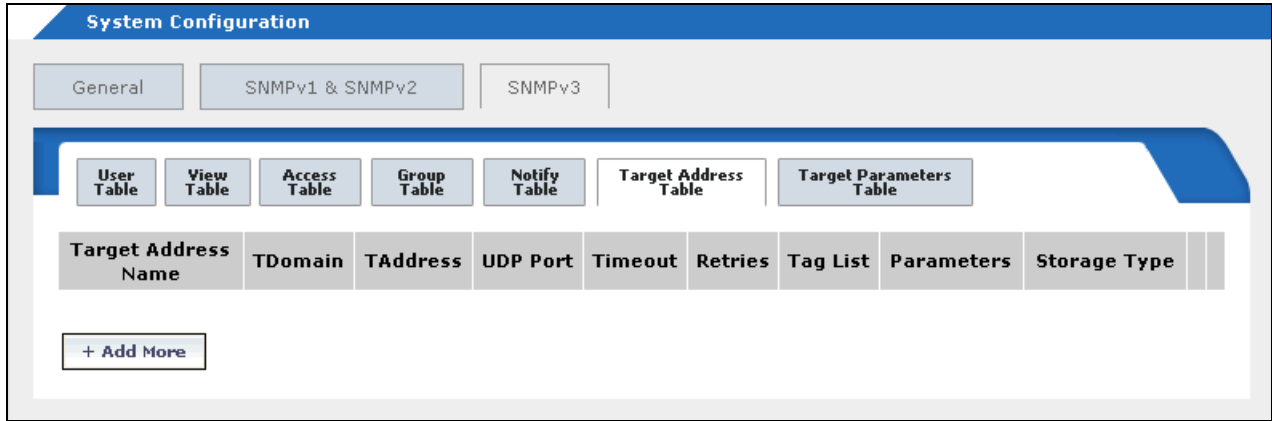

Figure 122. SNMPv3 Target Address Table Tab
- :Click the **Configuration** button in the menu bar and then select the **SNMPv3** tab and the **Notify Table** tab. The tab is shown in Figure 122.
- :Click the **Configuration** button in the menu bar and then select the **SNMPv3** tab and the **Target Address Table** tab. The Target Address Table tab is shown in Figure 122.
- Click the **Configuration** button in the menu bar and then select the **SNMPv3** tab and the **Target Parameters Table** tab. The Target Address Table tab is shown in Figure 122.